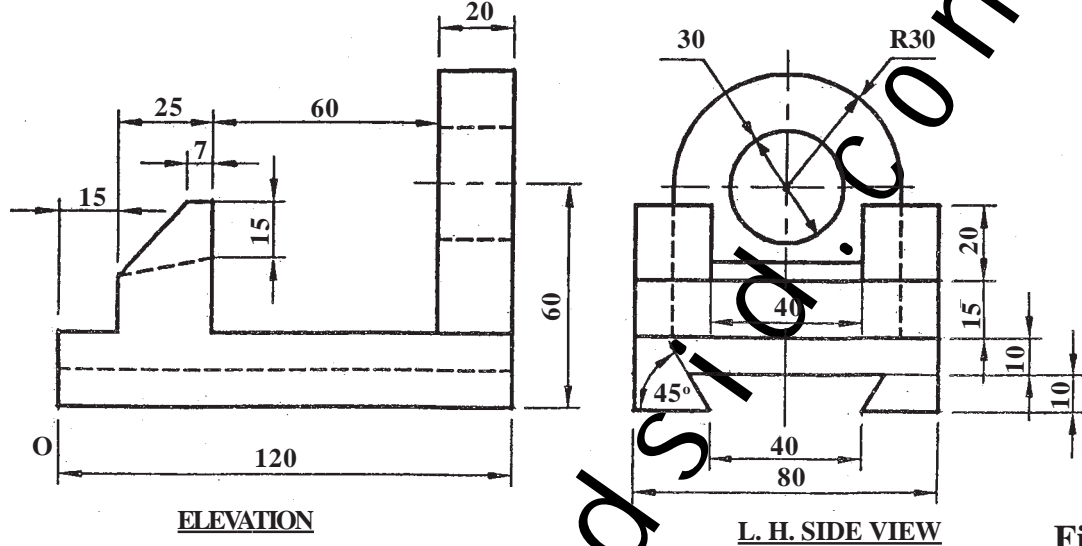

Fig. 5
Q.7) Fig. 5 shows the Elevation and Left Hand Side View of an object by First Angle method of Projection. Draw an isometric projection taking origin at 'O' and give all dimensions : [17+3]